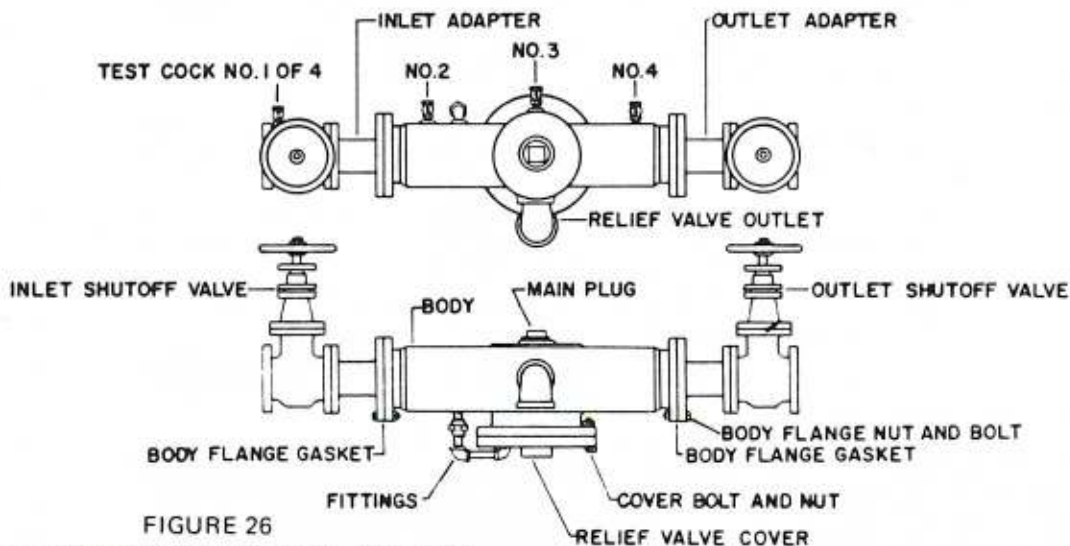

FIGURE 26
B. DISASSEMBLY OF CHECK VALVES, 1-1/2" – 6" SIZES, MODEL 6 (see Figs. 26, 27 and 28)